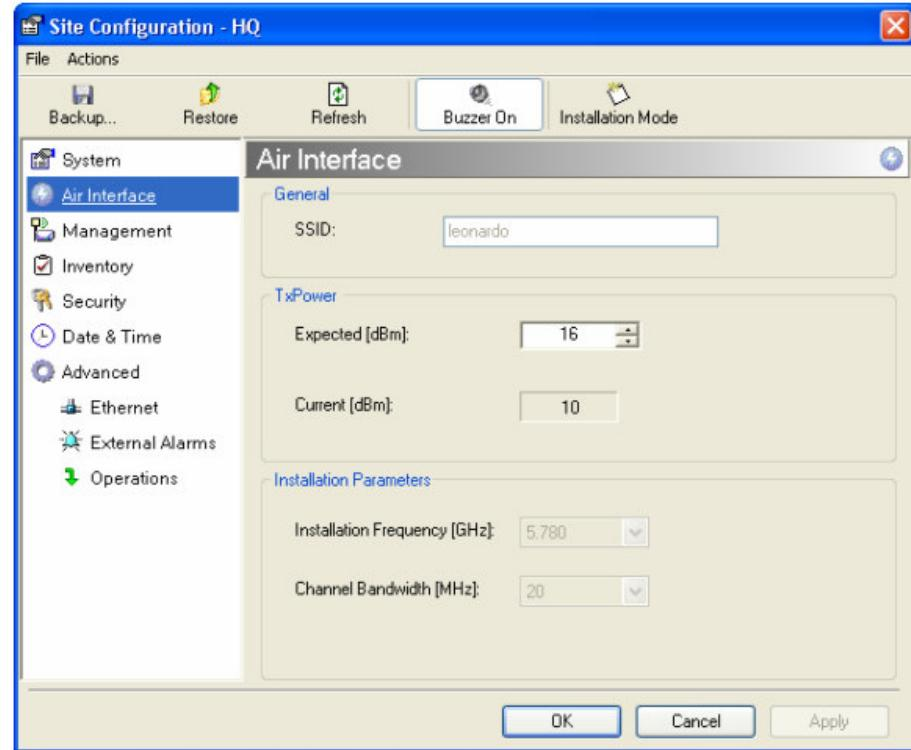

Figure 5-12: Changing the Transmit Power
3. Select Air Interface. (See Figure 5-12)